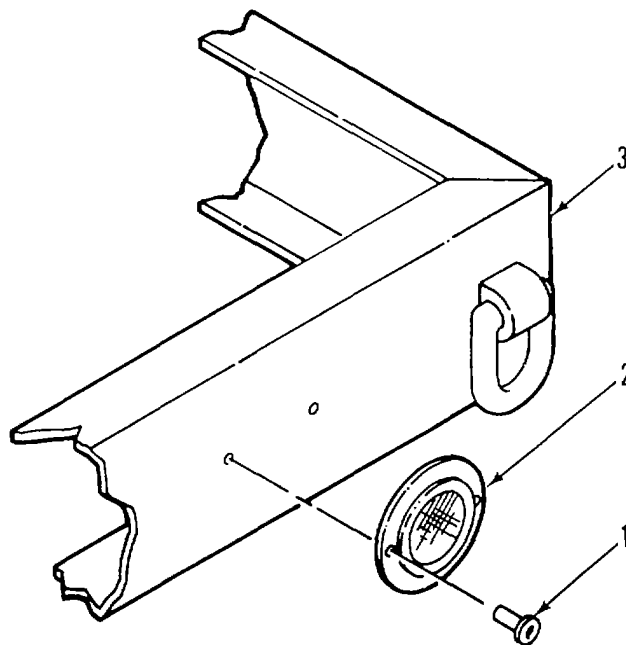

Figure 2-52. Reflector
a. REMOVE. (Figure 2-52)
- (1) Select the same diameter drill bit as the install blind rivets (1).
- (2) Drill through center of rivet (1) just deep enough to sever rivet head from shank.
- (3) Remove reflector (2) and remainder of rivet (1) with a pin punch.